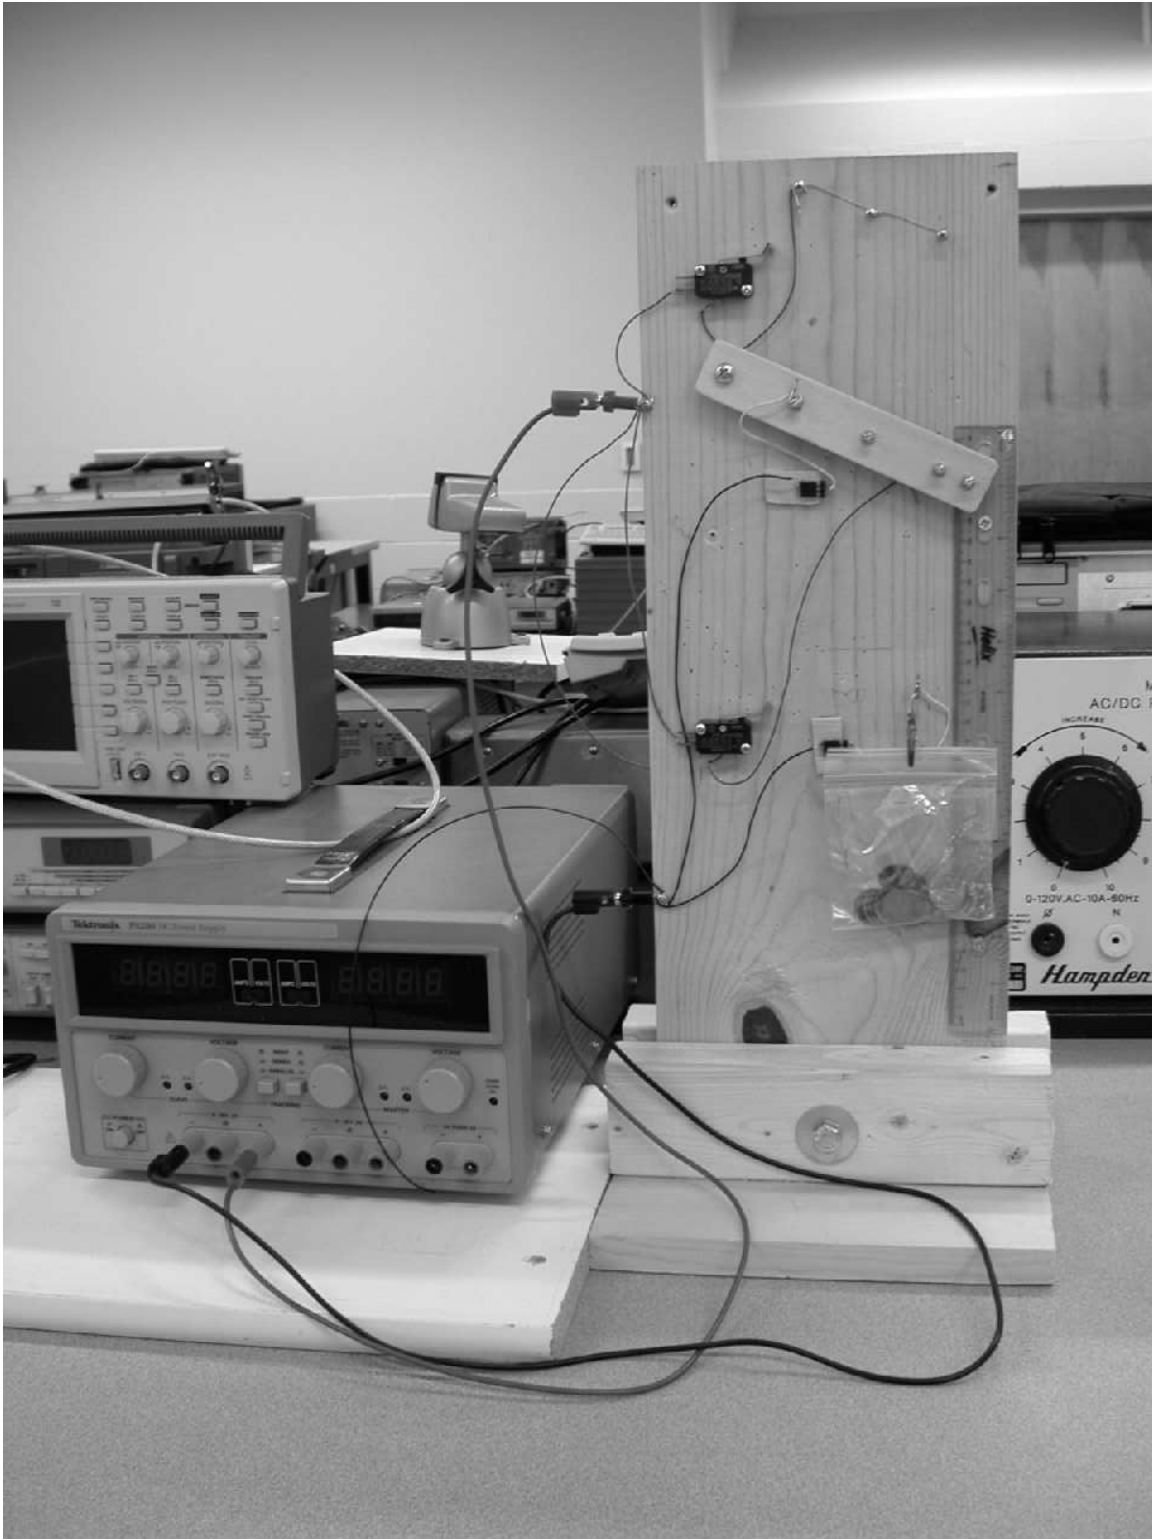
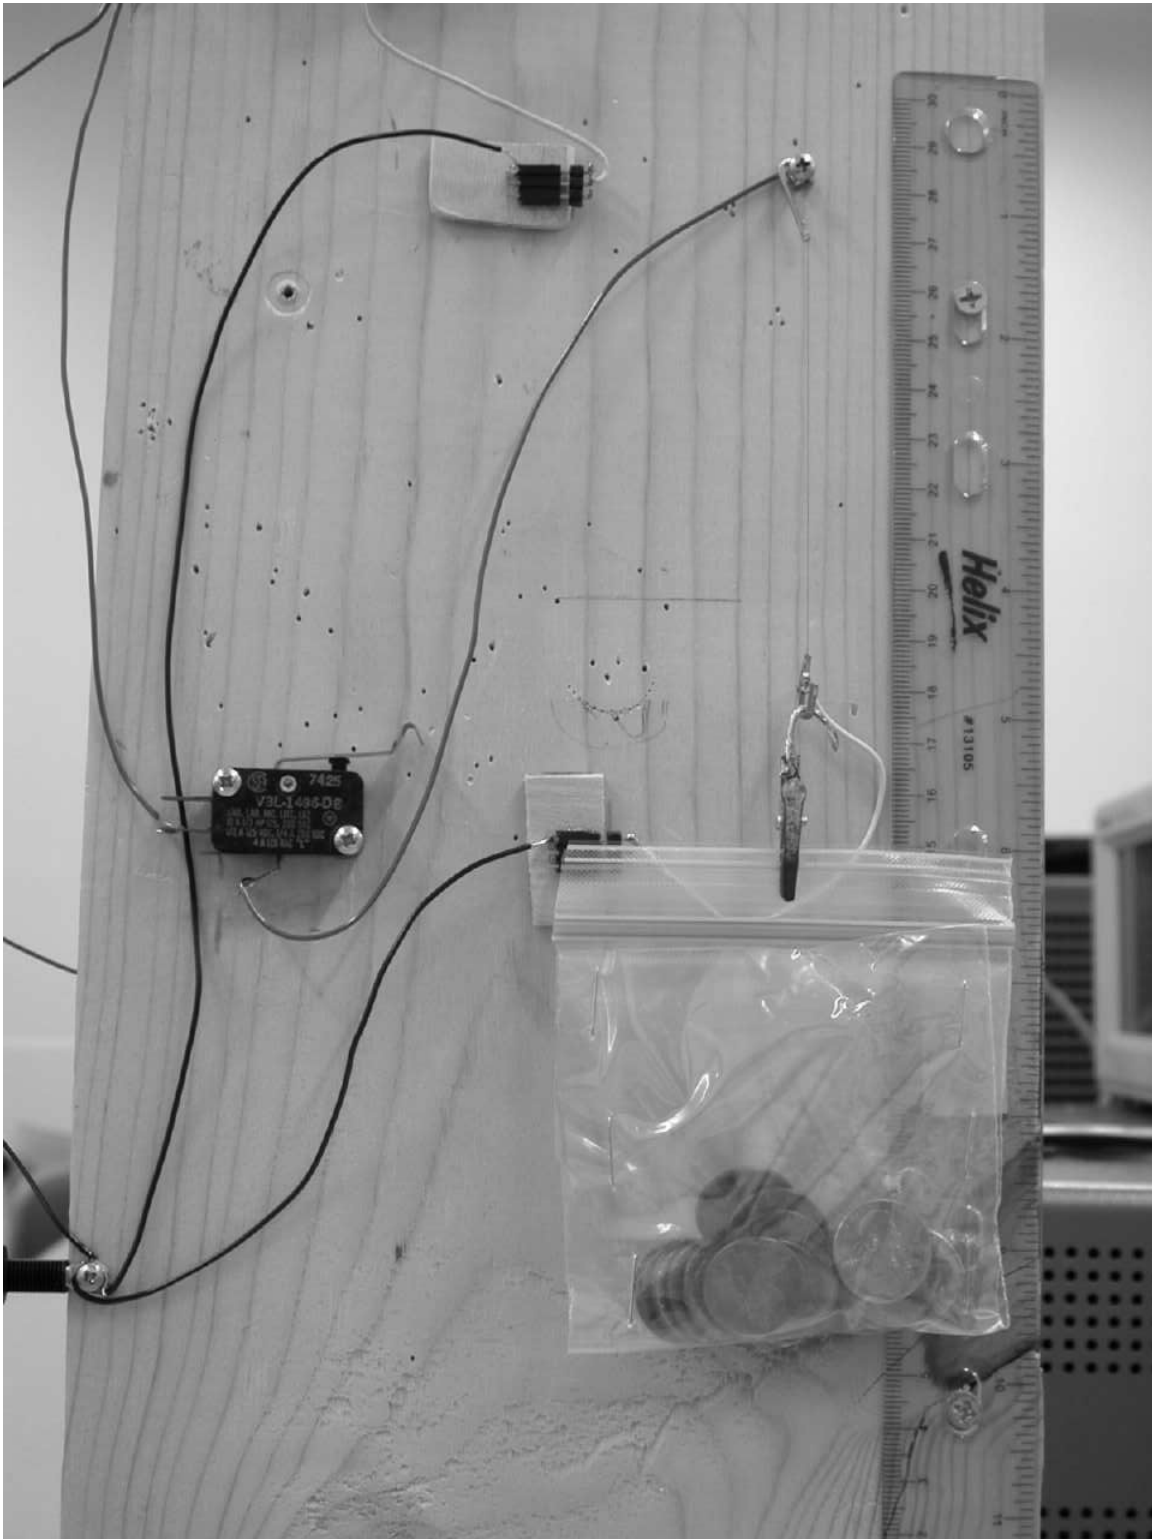

Figure 20: Nitinol test stand
Figure 21: Nitinol dead weight lift setup
1. Examine the test stand (Figure 20). This lab uses the bottom section of the test stand. If not already done, attach the nitinol wire as shown in Figure 21. Fill the plastic bag with 18 pennies (about 50g) and hang as shown.